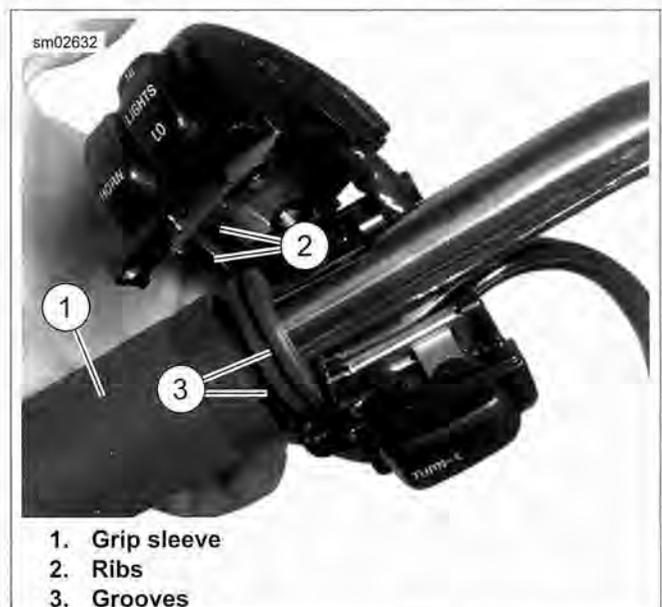

Figure 6-153. Left Handlebar Switch Housings
2. See Figure 6-153. Install upper and lower switch housings on handlebar. Be sure that ribs (2) on outboard side of switch housings fit in grooves (3) molded into grip.